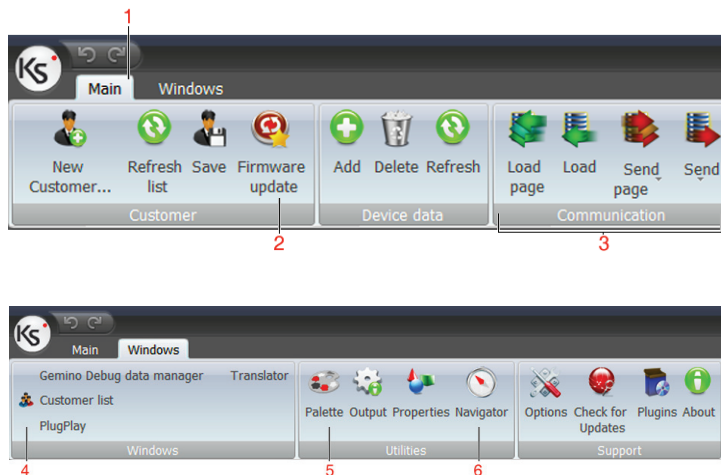
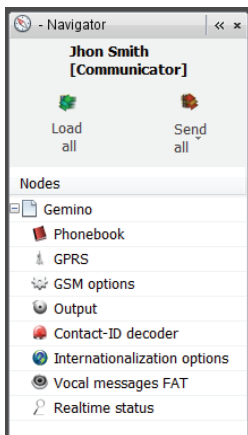

Figure 6. Main toolbar.
Figure 9. Navigator.
All platform functions can be accessed from the main toolbar (fig.6).
The reading and uploading functions for the programming are located in the main menu (1, fig. 6). The “Send/Load” (3) function, upload/load to the device only the selected element (e.g. a telephone number), otherwise the “Send Page/Load Page” (8) upload/load to the device all the selected page (e.g. the address book). To upload all the programming, use “Send Page” function of the Navigation control windows (figure 9). By clicking on the upload function is possible to select if upload the data to the device or to create a file to be used for an upload with the USB pendrive (refer to CONFIGURATION chapter).
The navigation control window allows you to move quickly between the various configuration screens of the currently selected device. You only need to double-click on an element to access the relevant configuration page. To open this window, activate function 6 on the main toolbar (fig. 6).
To upload all the programming to **gemino™**, use "Send all" function of the Navigation control windows (fig. 9).
The palette provides access to the main common components of the current device. All you need to do is drag the required element into the main window in order to include it into the configuration data. To open this window, activate function 5 on the main toolbar (fig. 6).